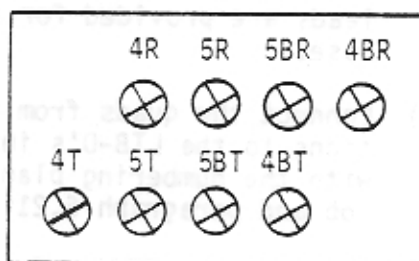

FIGURE 4C - LTB-E TERMINAL LAYOUT
- g) The LTB-E Terminal Board assembly (figure 4C) is factory-equipped with one modular plug-ended line cord. The GN/RD pair is connected to terminals 4T/4R and the YL/BK pair is connected to terminals 5T/5R.